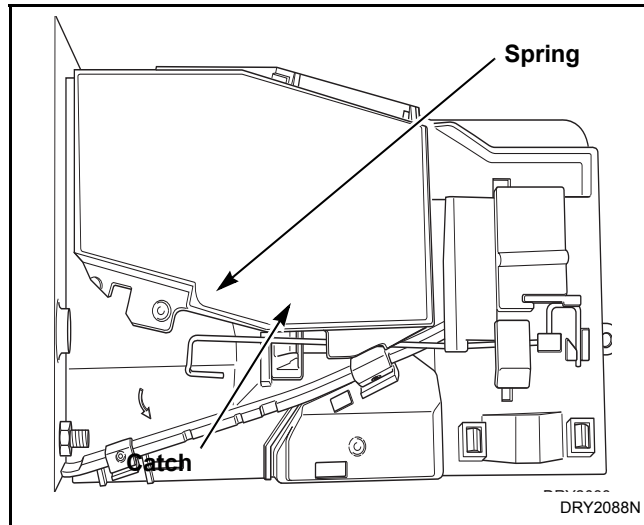

Figure 23
**Coin Drops with Old-Style Spring (refer to Figure 23):**
- Move spring downward until cover catch is free. Refer to *Figure 23*.